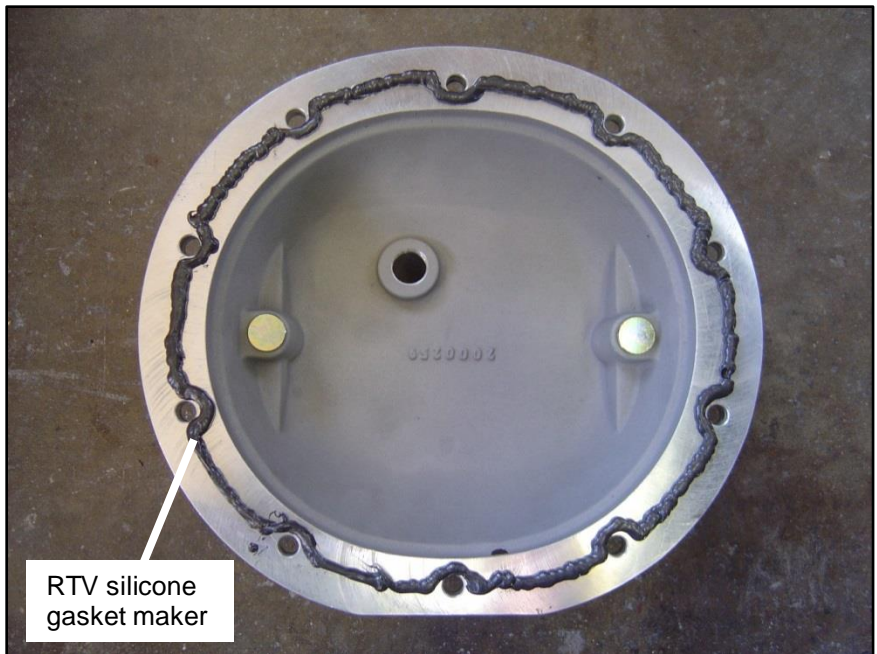

Figure 4
**STEP 11.** Apply a bead of RTV silicone gasket maker to the **B&M Cast Aluminum Rear End Cover**. Run the bead inside the bolt holes (See Figure 4).